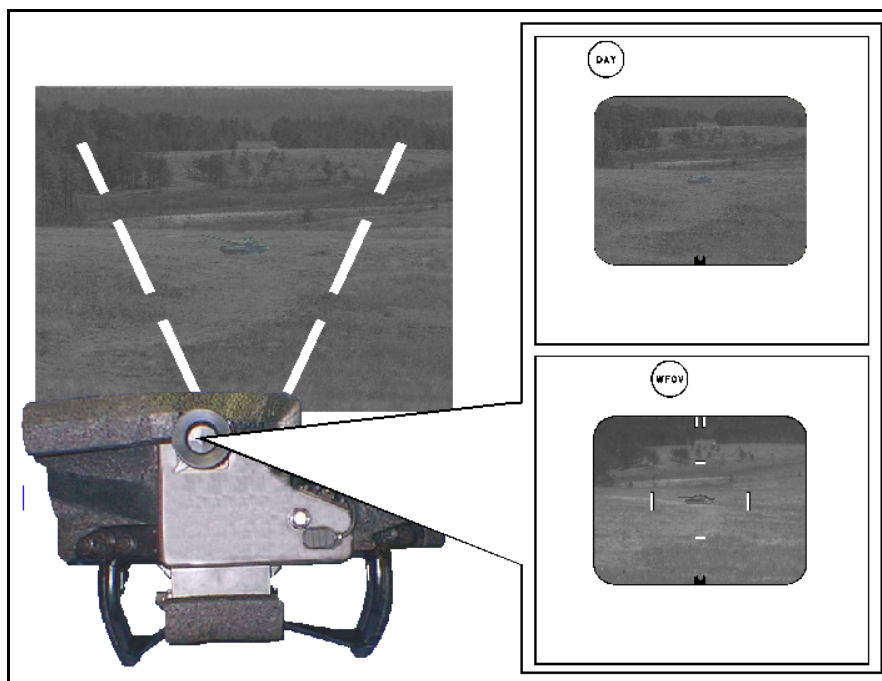

Figure E-25. Day FOV versus NVS operation during High levels of obscuration.
(1) Rain, snow, sleet, fog, haze, smoke, dust, and darkness are referred to collectively as limited visibility conditions. These conditions affect the gunner's ability to acquire and engage targets with the Javelin especially when using day FOV (Figure E-25, page E-16). The gunner uses the NVS to overcome darkness, haze, and some smoke systems.
(2) The NVS can see through low levels of these obscurants better than the daylight. Its capability is restricted at higher levels of obscurations (Figure E-25). The effect on the NVS image is a decrease in contrast.